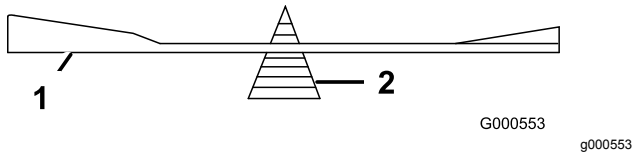

Figure 99
2. Check the balance of the blade by putting it on a blade balancer (Figure 99).